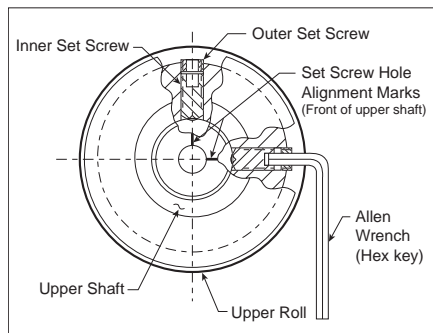

Figure 9
10. Hold the upper roll against the front shoulder of the upper shaft. With the $\frac{3}{16}$ -inch allen wrench (supplied), "feel" the inner set screw into the set screw hole on the upper shaft while tightening. The allen wrench must be in the position shown in Figure 9 above to tighten the inner set screw.